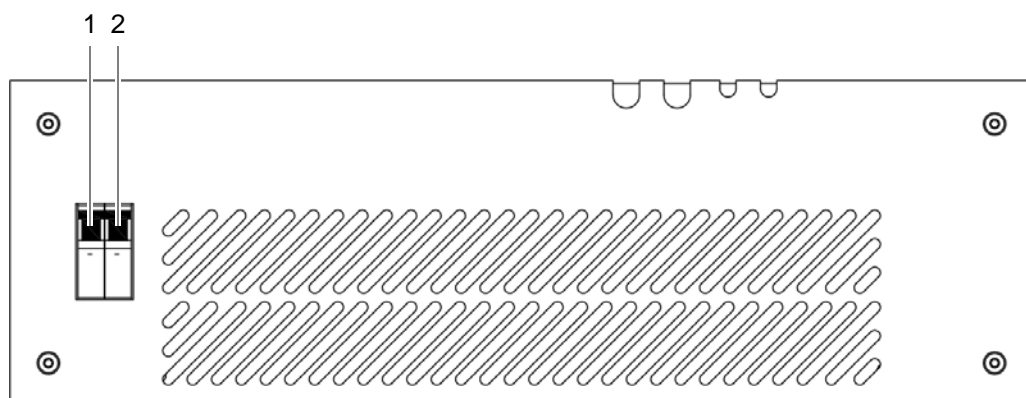

Figure 5.30 On/off switch
- ➔ Switch the on/off switch upward to switch on the DIB-500 R4.1, see Figure 5.30.